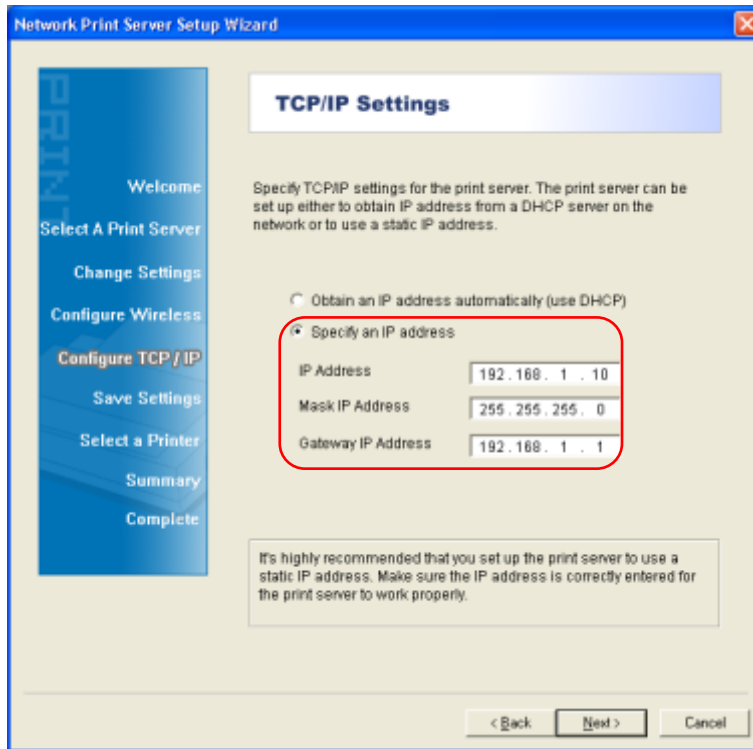

Figure 3-6
- Select “**Yes**” if you want to change the settings. The TL-PS110U is produced without password. Click **Next** and then appears “**TCP/IP Settings**” screen as shown in Figure 3-6. Proceed with the following steps.
6. On “**TCP/IP Settings**” page shown in Figure 3-6, check the “**Specify an IP address**” radio button, and then fill in the following parameters.